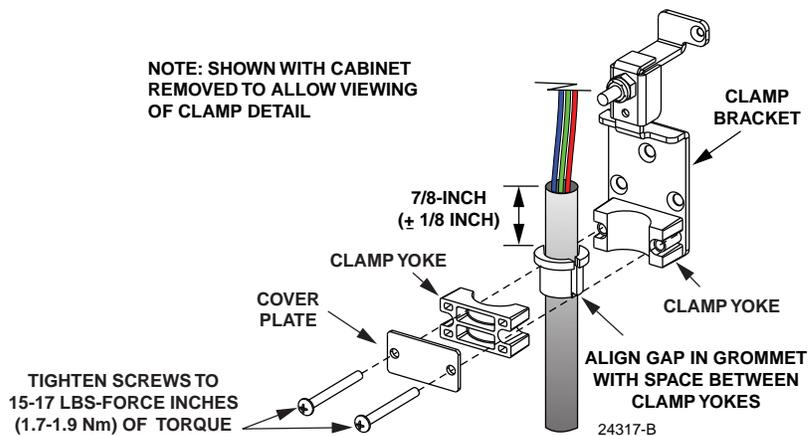

Figure 15. Feeder Cable Clamp Installation
10. Adjust cable to remove any excess slack from the cabinet interior and then loosely assemble the cable clamp and grommet on the cable as shown in Figure 15. Leave 7/8-inches ($\pm 1/8$ -inch) of the cable sheath showing above the grommet.